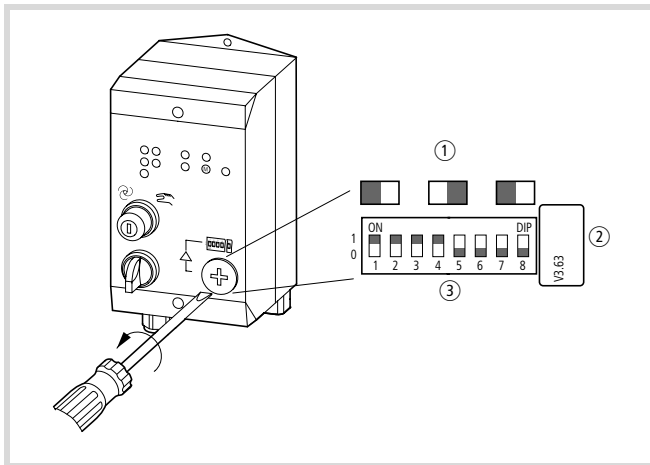

Figure 64: DIP switches/jumpers from version 2.1
After the assigned jumper or DIP switch has been set (➔ figure 64, 65), the lower current limit is monitored in all three phases. This provides detection of load unbalance and phase failure. If the current drops below 35 percent of the set value in at least one phase (➔ table 4 to page 62), a group error message is generated and the contactor is switched off. Current values above 40 percent of I_n do not trigger lower current level monitoring. After a Reset command the RA-MO can be operated in both manual and automatic mode.
To be able to read out the diagnostic status (left jumper in right position, ➔ figure 64 r DIP switch 10 = 1 from version 2.2) the PLC with WRITE P must send the parameter bit combination 111. The motor starter returns the diagnostic status (➔ table 2). If no diagnostic data is available, the motor starter returns the parameter bit combination 111.
- 2) The information number is printed at the jumpers, → figure 64
→ For this setting, the jumper on the right must be in its left position (→ fig. 64).